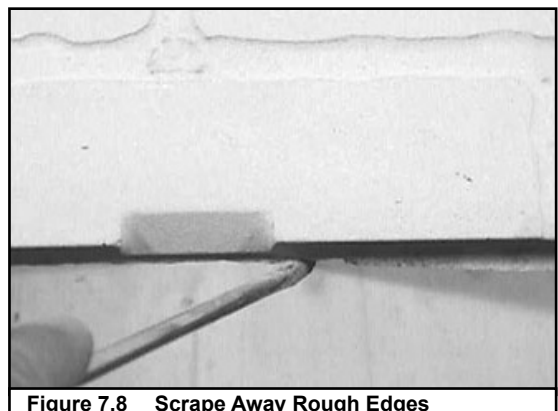

Figure 7.8 Scrape Away Rough Edges
- Remove shipping brackets as shown in Figure 7.8. Replace the screws removed from the fireplace.
Note: Before installing refractories and hearth stone, be sure all back edges of each piece are smooth to ensure proper fit. Scrape away excess with a regular screwdriver. See Figure 7.8.